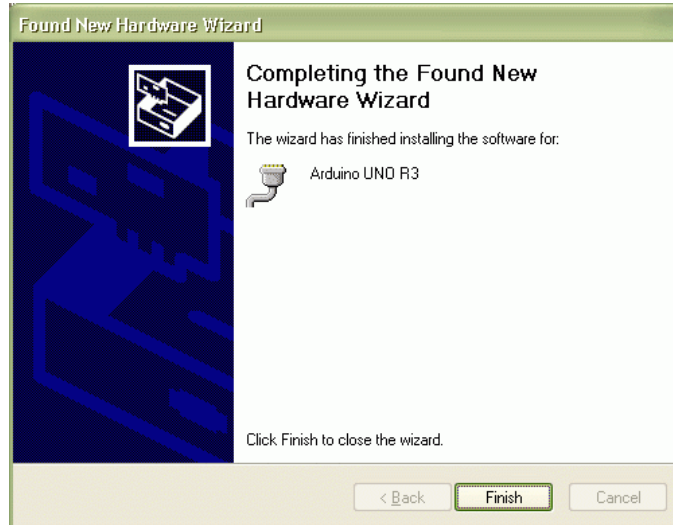

Figure 6: Successful installation of the driver.
- Upon successful installation of the driver, Windows will display a confirmation dialog as shown in Figure 6. Click on *Finish* to continue.